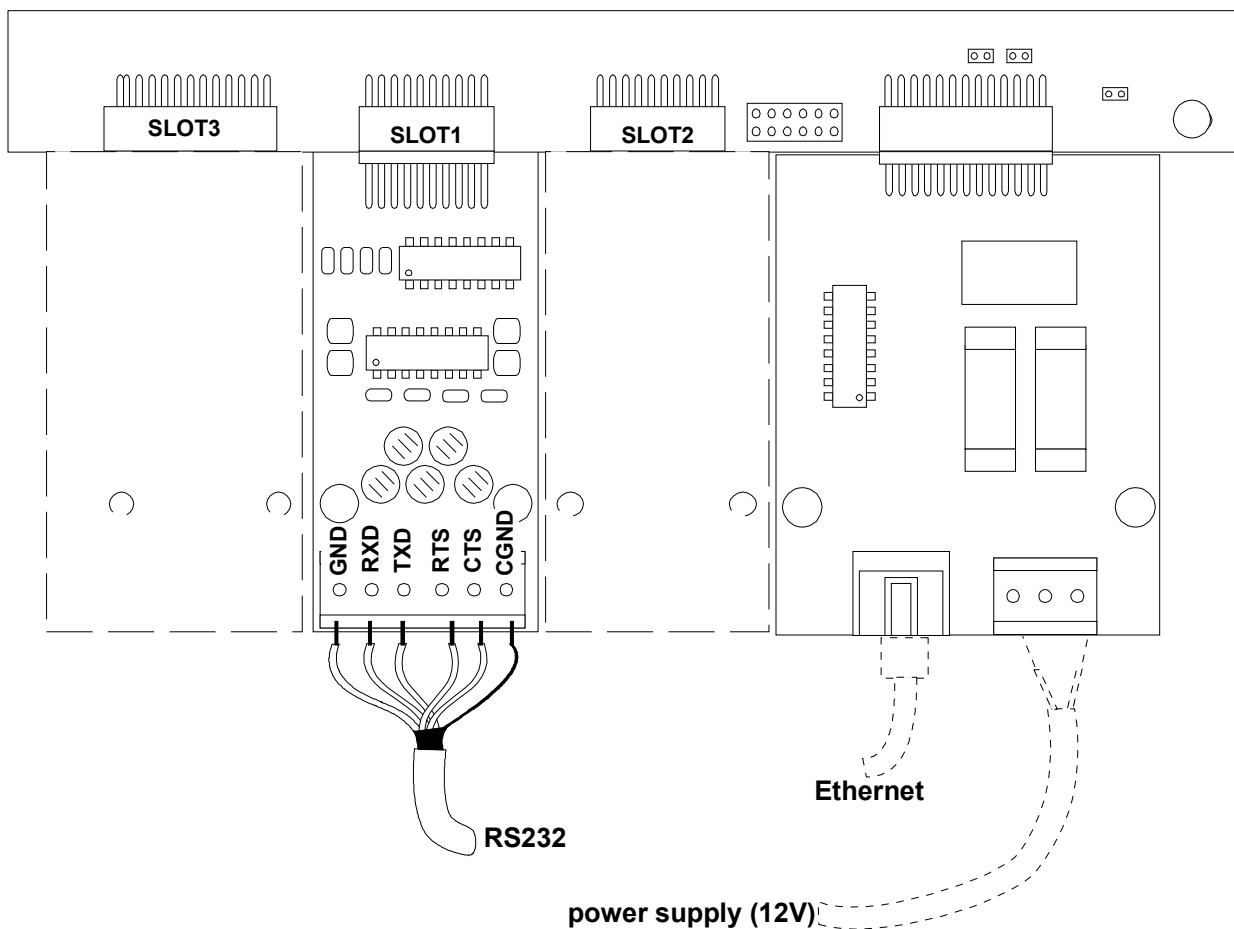

Figure 16. RS232 Board Connection (optional)
- Connect cable RS232 to the front connection board as illustrated in Figure 16.